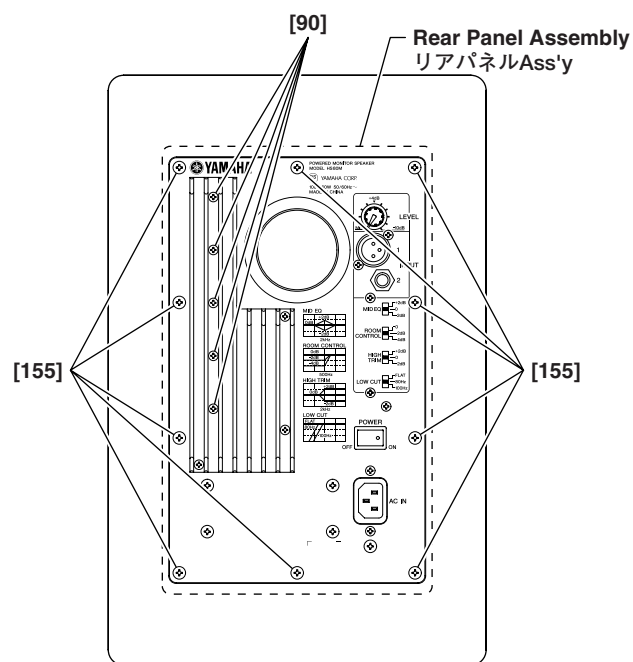

Fig. 2 (図 2)
Remove the ten (10) screws marked [155]. The rear panel assembly can then be removed. (Fig. 2)
- 4-2 Remove the five (5) screws marked [90]. The AMP unit can then be removed. (Fig. 2)
[155]のネジを10本外し、リアパネルAss'yを外します。(図2)
- 4-2 [90]のネジを5本外し、AMPユニットを外します。(図2)